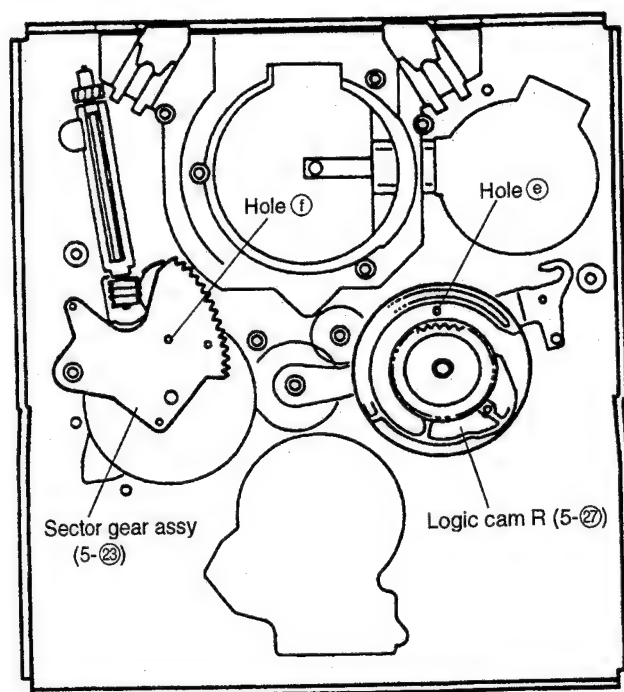

Fig. 4
Install Logic cam R (5-27) so that hole ⑥ in Logic cam R (5-27) in Fig. 4 is aligned with the holes (hole ④ in Guide carry lever assy (5-29) aligned in 2) of 2 with hole ⑥ in the mechanism chassis).
③ in Coupling gear A (5-25) and hole ③ in the mechanism chassis) are aligned with each other.
Install Sector gear assy (5-23) so that hole ① in Sector gear assy (5-23) in Fig. 4 is aligned with the holes (hole ③ in Coupling gear A (5-25) aligned in 1) of 2 with hole ③ in the mechanism chassis).